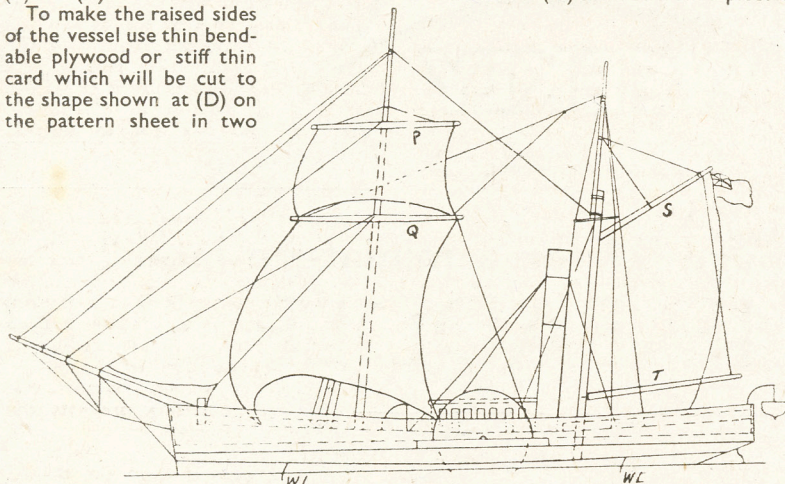
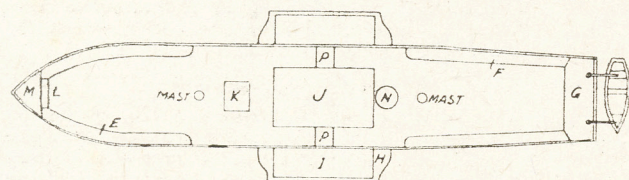
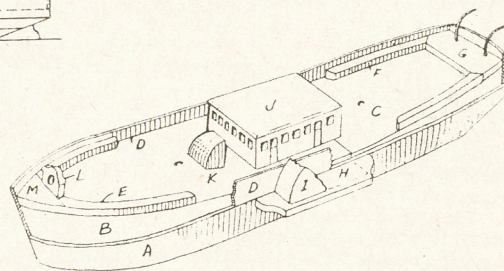

Fig. 2—Side view, with dotted lines of adjoining parts
Fig. 1—Plan of deck and hull
Fig. 3—Constructional details of hull and paddle box
type, and measures—without its base—13½ ins. long overall and its height is 8 ins. The plan at Fig. 1 and side view, Fig. 2, will be found very useful when assembling the various parts of the model. The full-size patterns, too, of many of the important parts, are given on cover iii.
Fig. 4, to draw on parchment paper or ordinary cartridge drawing paper. Glue the sails to the spars as shown and bind with fine cord at places, excepting the foresail which will have cords attached. The rigging of the masts can be carried out with fine thread, the arrangement being taken from Fig. 2.
In painting the model use ordinary oil paint or enamel. The hull should be black with a bright red waterline (marked W.L. in Fig. 2). The upper sides of the model above line of deck, should be painted cream. The deck is light brown lined up to represent the planking. The cabin is white with windows painted blue with black frames.
It should be mentioned that the little semi-circular blocks (P) on the pattern sheet are cut from $\frac{1}{4}$ in. wood and shaped to represent the deck casing to the spindles carrying the paddle-wheels. Note their position on the plan, Fig. 2. The funnel is painted red with a black banding.
sections. The plan of the ship, Fig. 2, and the view showing construction, Fig. 3, show how the bent sides appear when glued to the raised blocks at bow and stern. A large portion of the foremost side is shown cut away for sake of clarity.
We give a pattern full-size of one of the davits for the boat, and pieces of suitable wire may be bent and fixed in the two holes shown in piece (G). Short pieces of thread or fine wire suspend the boat (see Fig. 2) plan and side view. The two masts are from $\frac{1}{8}$ in. diameter round rod, the fore mast being shaped to taper slightly upwards. The mizen will not be shaped at all, as there will be a top spar spliced to it, as seen in Fig. 2. The main mast is $7\frac{1}{2}$ ins. long; the mizen $4\frac{1}{2}$ ins. long, and the top spar or mast $2\frac{1}{2}$ ins., $\frac{1}{8}$ in. of this being used for splicing on the mast.